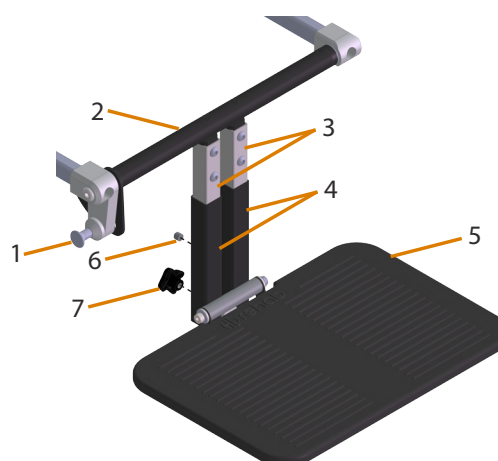

Figure 24. Centre leg rest components
Components, see Figure 24:
- Push in the snap lock (6 in Figure 24) and move the footrest tubes to the desired position.
- Turn the knob (7 in Figure 24) until the footrest reaches the desired position.